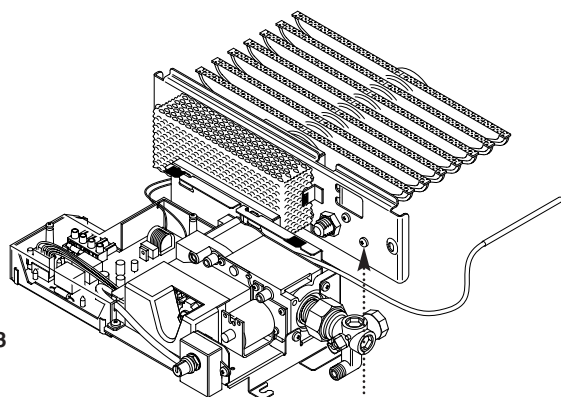
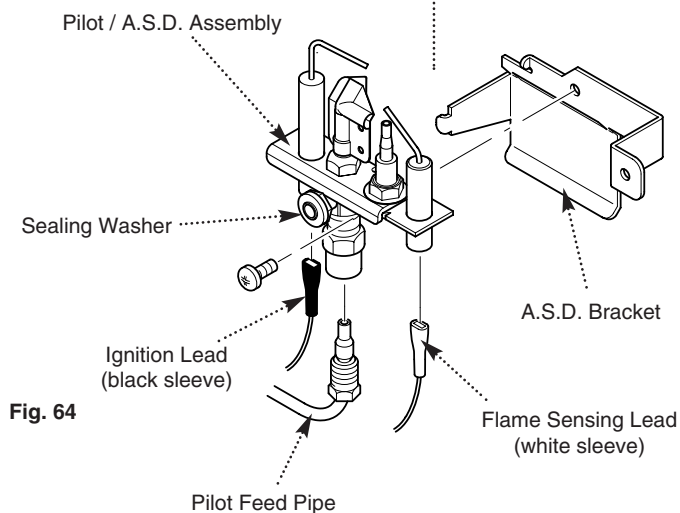

Fig. 63
Fig. 64
1. Remove the ignition and sensing leads from the A.S.D. electrodes (Fig. 64). Undo the pilot feed pipe at the A.S.D. (Fig. 63 & 64).
2. Undo the screw holding the A.S.D. bracket to the burner mounting plate and disengage the tab on the bracket from the plate. Undo the screw holding the A.S.D. to its bracket (Fig. 63).
3. Fit the new A.S.D. onto the bracket (Fig. 64) and connect the ignition and sensing leads to their electrodes.
2. Remove the three screws securing the controls box cover and remove the electrode lead from its terminal on the PCB and the electrode. The lead has a black sleeve at the electrode end (Fig. 64 & 65).
2. Remove the three screws securing the controls box cover and remove the electrode lead from its terminal on the PCB and at the sensing probe end. The lead has a white sleeve (Fig. 64 & 65).